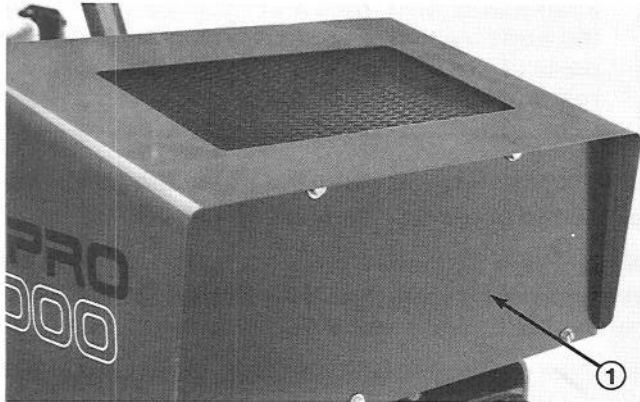

Figure 15
LUBRICATION (Fig. 15)
1. Remove (5) screws securing front panel to frame (Fig. 15). Locate grease fitting thru opening in frame.